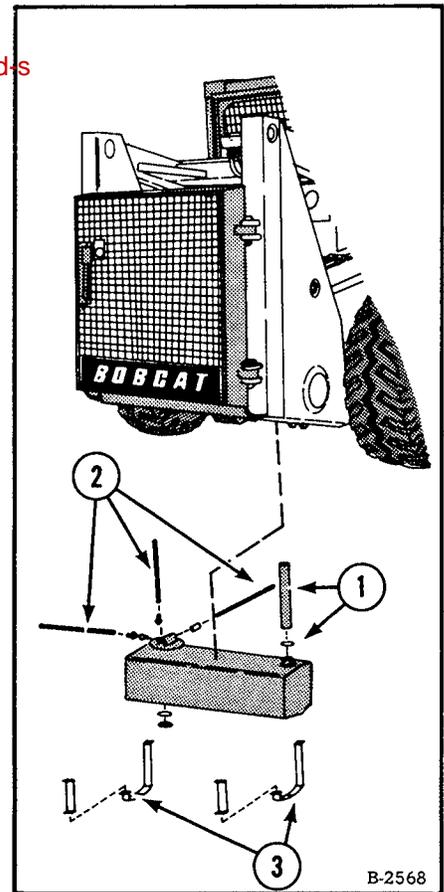

Fig. 1-47 Hydraulic Reservoir Removal
- (1) Slide skid plate open (See page 1-37).
- (2) Remove fill hose and clamp (Fig. 1-47, Item 1).
- (3) Remove 3 hoses from top of 100 mesh screen (Fig. 1-47, Item 2).
- (4) Remove plug to let fluid out of reservoir.
- (5) Remove fasteners (Fig. 1-47, Item 3) and remove reservoir. The reservoir weight is 55 lbs. (25 kg).